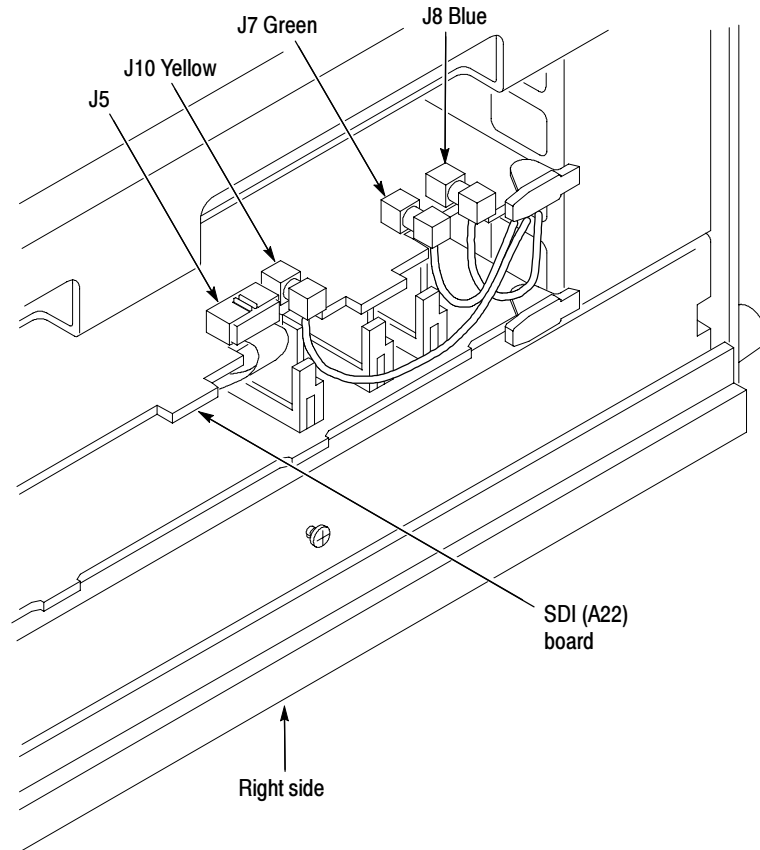

Figure 4: SDI circuit board location
1. Position the measurement set so that you face the right side (see Figure 4).
3. Plug in three coaxial cables into holder (J7, J8, J10) and one multicolored ribbon cable into holder (J5) as shown in Figure 4. Note the color and position of the three coaxial cables.